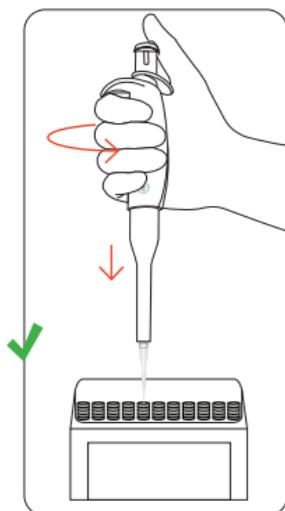

Figure 13. Press down with a rotating motion.
3. Use a slight twisting motion to seat the tip firmly on the tip holder of the pipette. (figure 13)